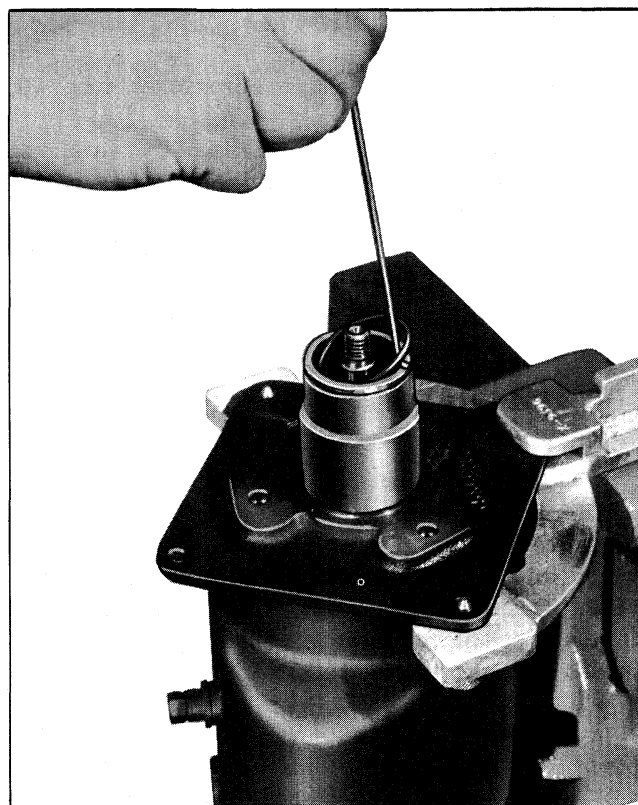

Fig. 5-7 Removing O-ring Seal
6. Remove "O" ring from interior of front head casting bore using J-9553. (A wire with a hook formed on the end may be used. This hook may be made in a manner shown in Fig. 5-7).
4. Remove "O" ring from interior of front head casting bore. (A wire with a hook formed on the end may be used. This hook may be made in a manner as shown in Fig. 5-7).